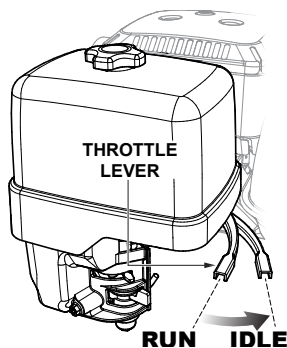

Figure 9. Throttle Lever (Idle Position)
2. Move the throttle lever (See Figure 9) to idle position.